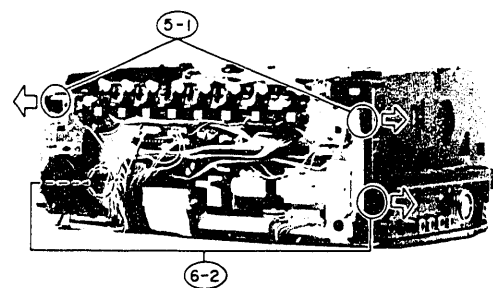

Fig. 20
5. System control PC Board/operation switch PC Board (Fig. 20)
6. Servo PC Board/Luminance/Chroma PC Board (Fig. 20)